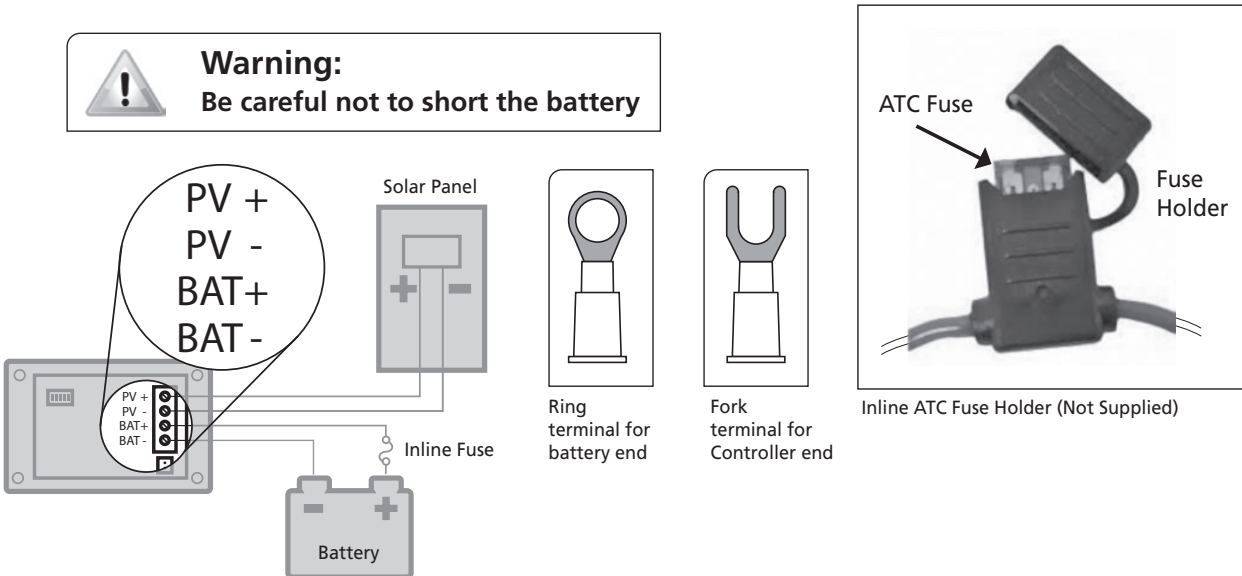

Fig 4.4. Wiring Layout
Refer to wiring layout shown in Fig. 4.4. **NOTE: Wiring and Fuse sizes recommended below are based on use of a single 100W solar panel.**
A pair of 20 foot, AWG#12, pre-assembled cables with Multi-Contact (MC4) Male and Female Connectors is provided to connect the solar panel to the Charge Controller. Please refer to wiring layout at Fig. 4.4 below.
- Make sure the Positive terminal (marked '+') of the battery is connected to the Positive terminal (marked "BAT +") of the Charge Controller and the Negative terminal (marked '-') of the battery is connected to the Negative terminal (marked "BAT -") of the Charge Controller SCC-30AB (Fig. 4.4). If you are not sure, use a DC voltmeter to determine the polarity of the battery bank. **Reverse polarity connection may damage the Charge Controller and the resulting damage will not be covered by warranty.**
- 4 pieces of Fork Terminals (Fig 4.4) have been supplied for crimping on to the wire ends on the charge controller side. These are provided with the SCC-30AB charge controller.
- 2 pieces of Ring Terminals (Fig 4.4) have been provided for crimping on the wire ends on the battery side.
- Use Inline ATC style Fuse Holder on the battery end of the Positive cable (Fig 4.4; NOT SUPPLIED).
9. Crimp the bare end of the wires with the fork terminals provided (Fig 4.4).
10. Insert the terminals into the appropriate terminal on the Charge Controller (Fig 4.4): Positive PV lead is connected to the Positive terminal (marked "PV +") of the Charge Controller and the Negative PV lead is connected to the Negative terminal (marked "PV -") of the Charge Controller. ***Reverse polarity connection may damage the Charge Controller and the resulting damage will not be covered by warranty.***